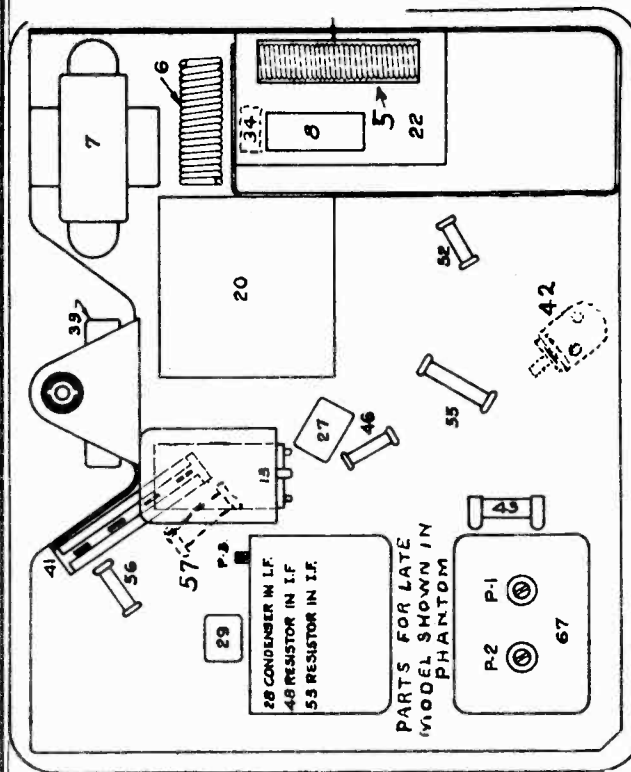

FIG. 2 PARTS LAYOUT--Bottom View
- (d) Peak the I.F. trimmer P-3 for the 2nd I.F. coil shown on Figure 2.
- (e) Then peak trimmers P-2 and P-1 of the first I.F. coil also shown on Figure 2.
- (g) Readjust the parallel trimmers for the "R.F." and "ANT" sections of the gang condenser (shown on Fig. 2) for maximum output. DO NOT disturb the oscillator trimmer (middle section) as this is adjusted at 1530 K.C. only, and any further adjustments at this point will affect both the tuning range of the receiver and the tracking of its circuits.